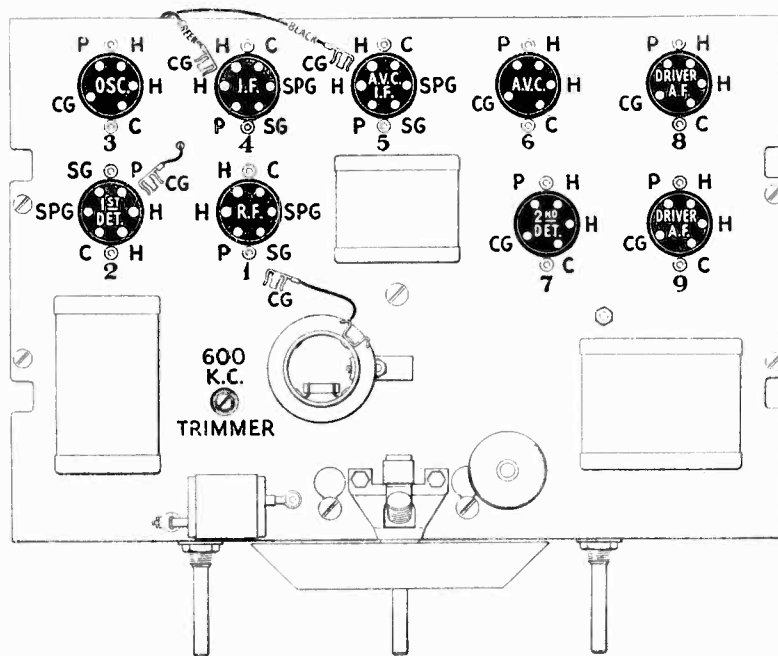

Figure 5—Radiotron Socket Layout
- (g) Set the oscillator at 600 K.C. Tune in the signal with the receiver until a maximum deflection is obtained in the output meter. Now adjust the 600 K.C. series capacitor, Figure 5, until a maximum deflection is obtained in the output meter. Rock the tuning capacitor back and forth while making this adjustment as the tuning capacitor and oscillator series capacitor adjustments interlock.
- (d) Remove the oscillator tube, see Figure 5, and make a good ground connection to the chassis. Place the oscillator in operation and couple its output from the control grid of the first detector to ground. Adjust the oscillator output, with the receiver volume control at maximum, until a deflection is obtained in the output meter.
The following voltages taken at each Radiotron socket with the receiver operating but no signal being received should prove of value when checking with the usual set analyzer. The plate currents given are not necessarily accurate for each tube due to the cable in the test box causing some circuits to oscillate. Small variations may be caused by different tubes and line voltages. Therefore, the following values must be taken as approximately those that will be found under varying conditions. The numbers in column 1 indicate the socket numbers shown in Figure 5.